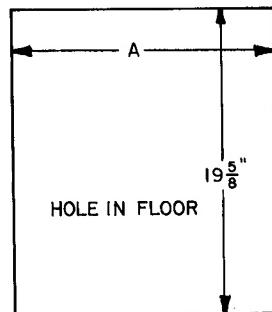

Fig. 3 — Floor Opening
2. Construct hole in floor per dimensions in Fig. 3 and Table 4.
2. Cut and frame hole in floor per dimensions in Fig. 3 and Table 4. If this requires cutting a floor joist, tie ends of cut joist into adjacent joists so that proper floor support is maintained.